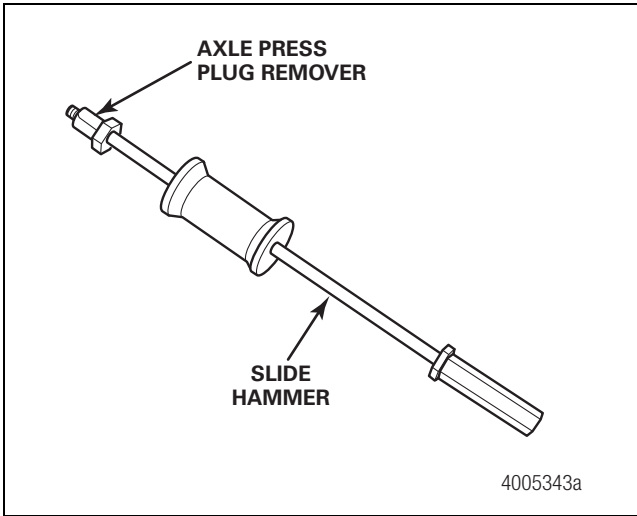

Figure 3.36
- J. Use a slide hammer fitted with the axle press plug removal tool to remove the leaking axle press plug. Use care not to score the inside diameter of the spindle bore. Figure 3.36.